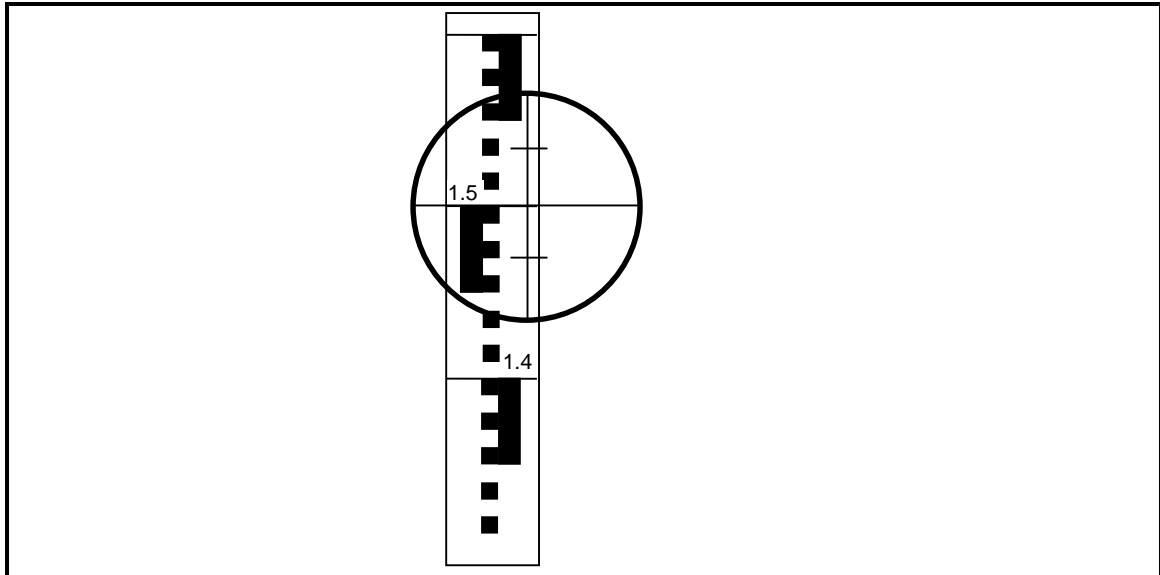

FIGURE 1.8
- 1.8 FIGURE 1.8 shows the dumpy level reading which is taken on the telescopic staff. Answer the following questions with regard to the reading.